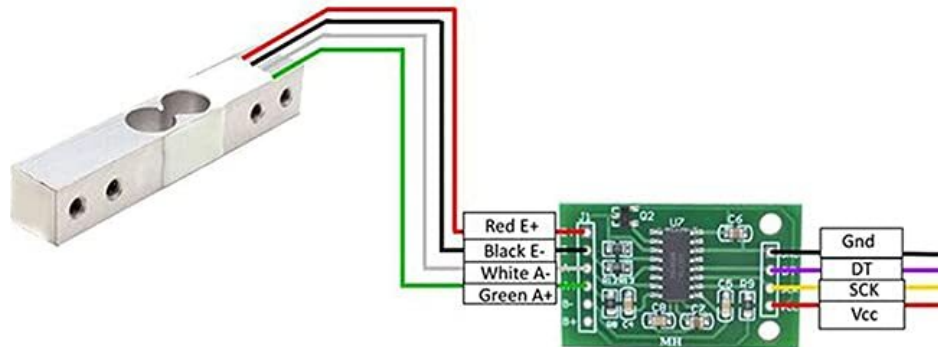

Figure 1: Wiring diagram for the HX711 breakout board.
1. Following Figure 1, carefully connect the thin wires coming out of the load cell to the screw terminals on the breakout board. Add a loop in the wires and a zip tie to act as strain relief.